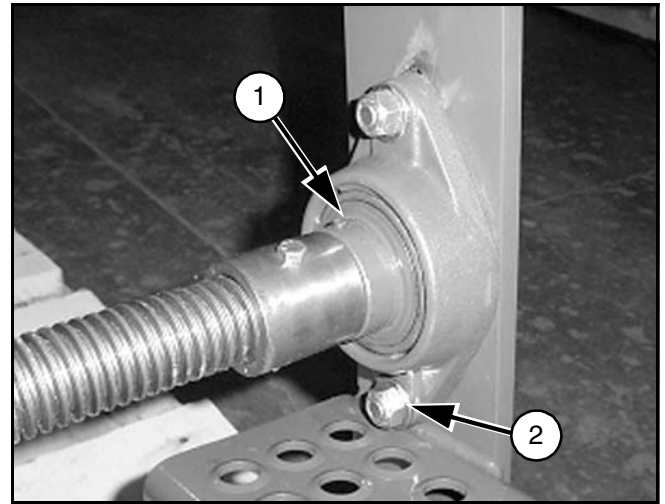

Figure 3
2. Loosen the setscrews (1) as shown in Figure 3.